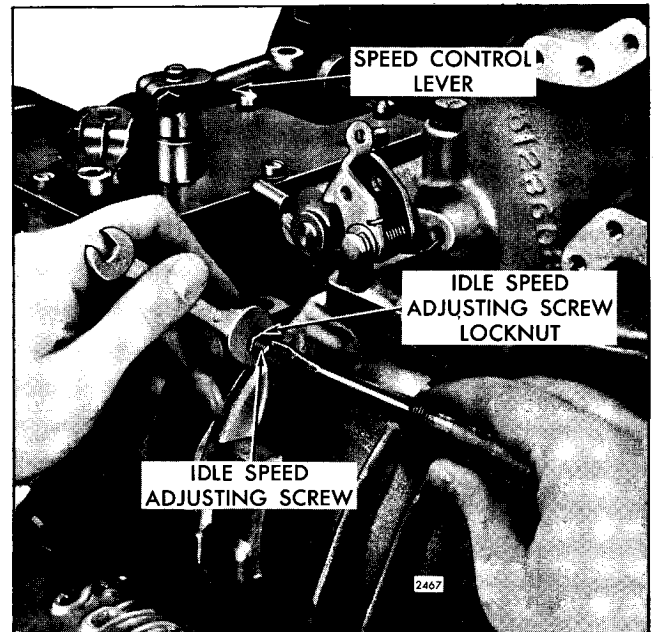

Fig. 3 - Adjusting Engine Idle Speed
1. With the engine running, at normal operating temperature and with the buffer screw backed out to avoid contact with the differential lever, turn the idle speed adjusting screw until the engine idles at the recommended idle speed. See Fig. 3.